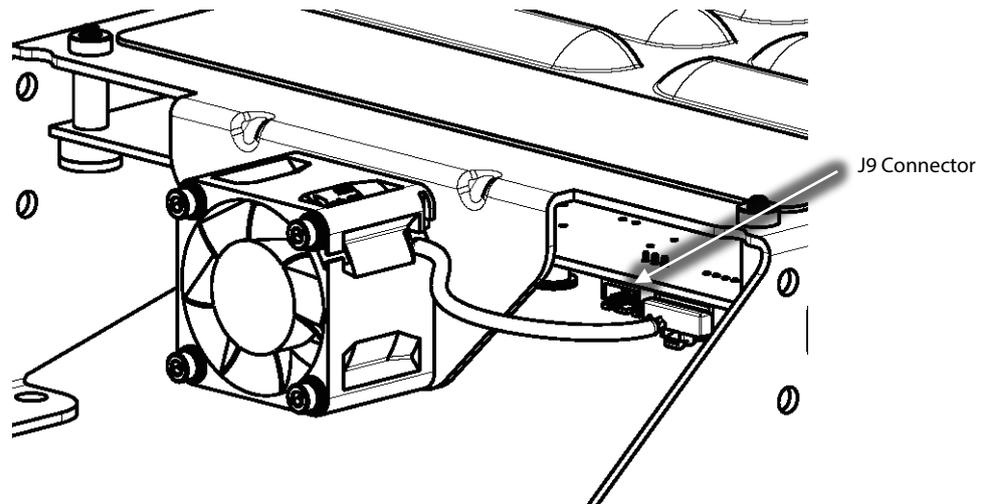

Figure 1 – Soft Start J9 Connector
- Remove the Top Cover by releasing the nine (9) screws that secure the cover, taking particular care not to touch ANY components underneath.
6. Using an appropriately rated volt meter, check the DC bus bars for voltage level. If the voltage is above 5VDC, wait five (5) minutes and recheck until 5VDC or below is achieved.
7. Remove the Capacitor Cover by releasing the six (6) screws that secure the cover.
8. For F Series and later compressors, remove the Soft Start Temperature Harness. Refer to Figure 1 (Soft Start J9 Connector).